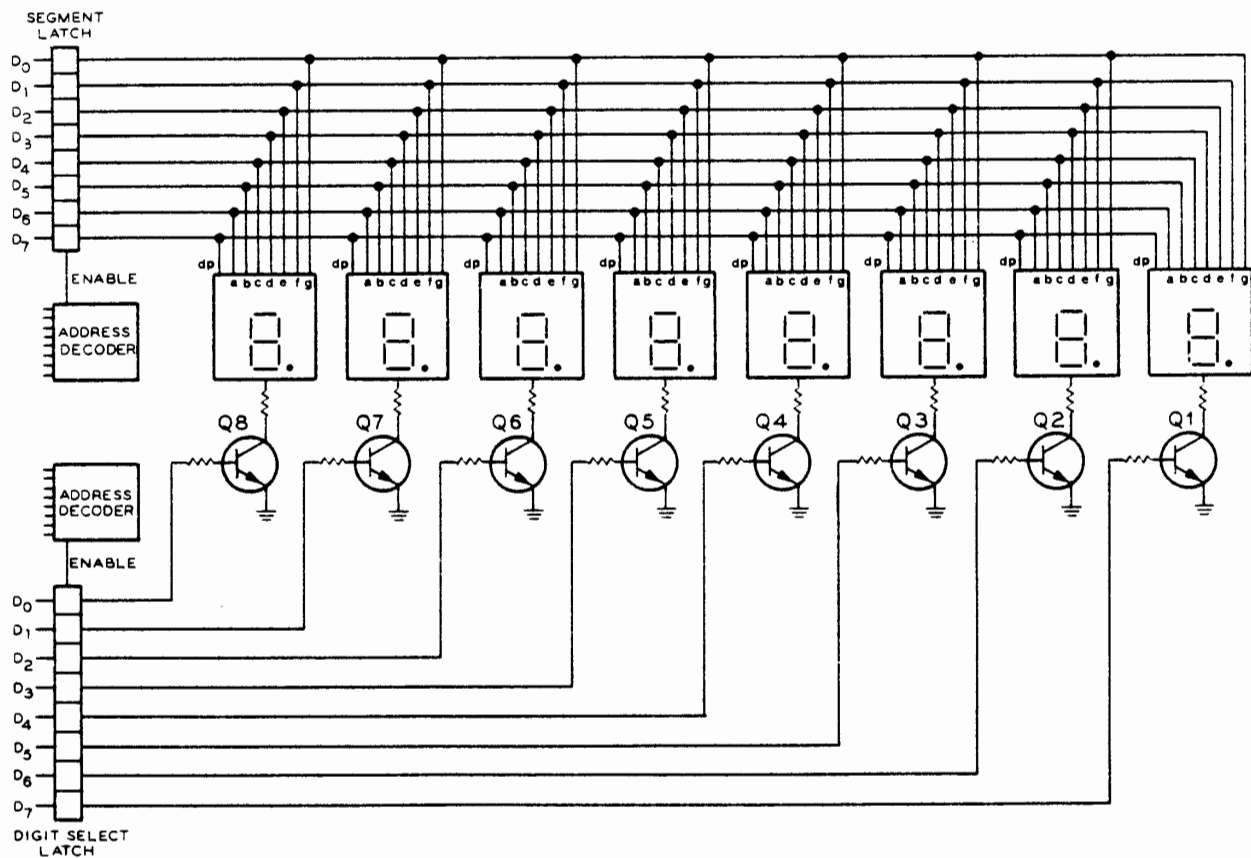

Figure 7-33
A typical circuit is shown in Figure 7-33. Eight common cathode displays are used in this example. The display cannot light unless its associated transistor is turned on. The transistors are controlled by the contents of the digit select latch. In turn, this latch is loaded by the MPU. Q₁ is turned on by placing 1 in bit 7 of the digit latch; Q₂ is turned on by placing 1 in bit 6; etc. Generally, only one transistor at a time is turned on. A common procedure is to store 10000000 in the digit select latch and rotate the contents so that the 1 appears at each bit in turn.
39. Refer to Figure 7-33. What determines which character is displayed?
40. Refer to Figure 7-33. What determines the display on which the character appears?
12. An advantage of the circuit shown in Figure 7-33 is: